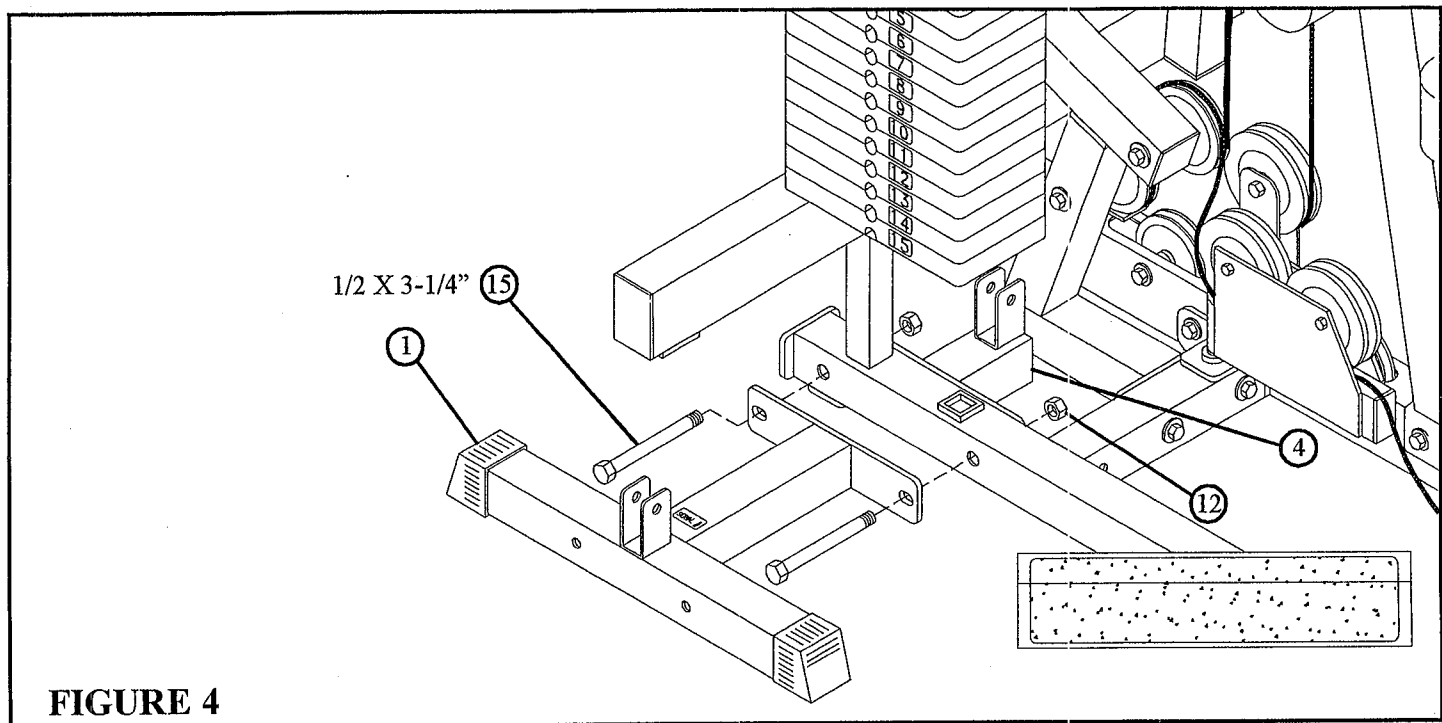

FIGURE 4
- Securely fasten the FRONT LEG (1) and the BASE CONNECTION (4) to the 400 HOME GYM using two 1/2 X 3-1/4" BOLTS (15) and two 1/2" LOCKNUTS (12). See FIGURE 4.